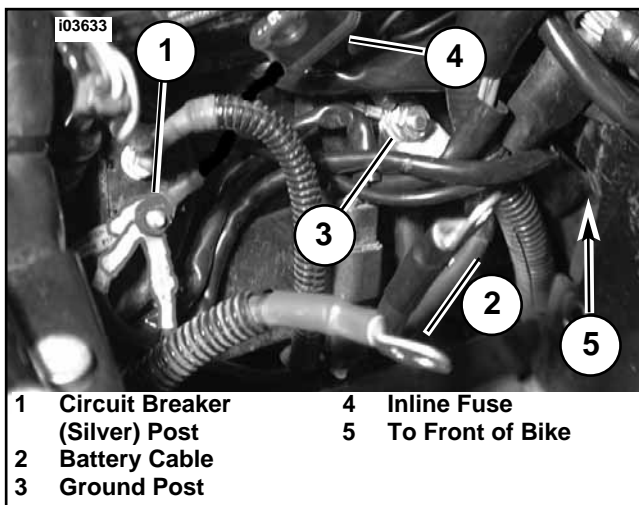

Figure 11. 2003 and Earlier Connect Power and Ground Wiring
37. See Figure 11. **2003 and Earlier.** Looking toward the front and left of battery box, locate the circuit breaker. Obtain the RED power lead (with in-line fuse) from the CD harness, cut off terminal and crimp on ring terminal. Remove nut from SILVER terminal post and connect RED power ring terminal lead to circuit breaker to SILVER terminal post. Re-install nut.